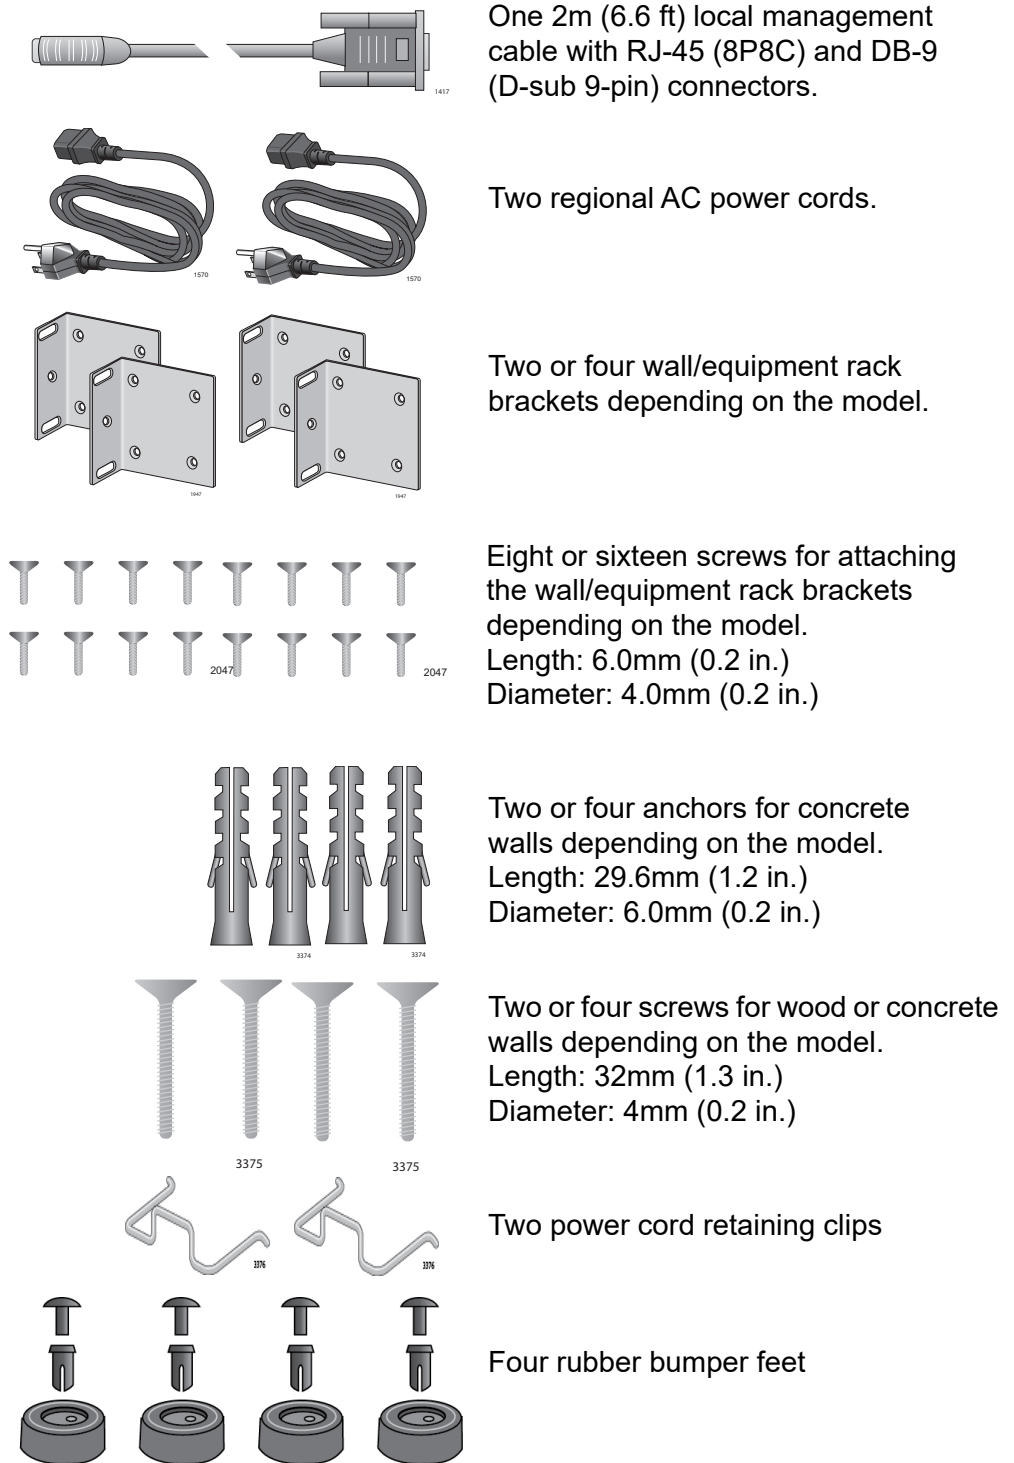

Figure 18. Accessory Kit Items
- ❑ Accessory kit (refer to Figure 18 on page 63)
Figure 18 lists the items that are included in the accessory kit. Contact your Allied Telesis sales representative for assistance if any item is missing or damaged.